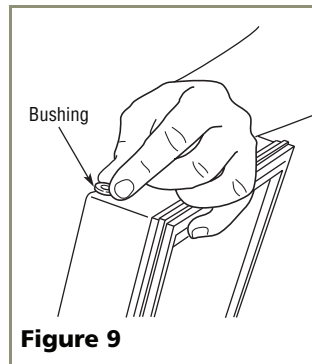

Figure 9
8. Relocate plastic spacer/bushing on bottom of door to the opposite side. See **Figure 9**. Clean out bushing hole in door bottom if necessary.